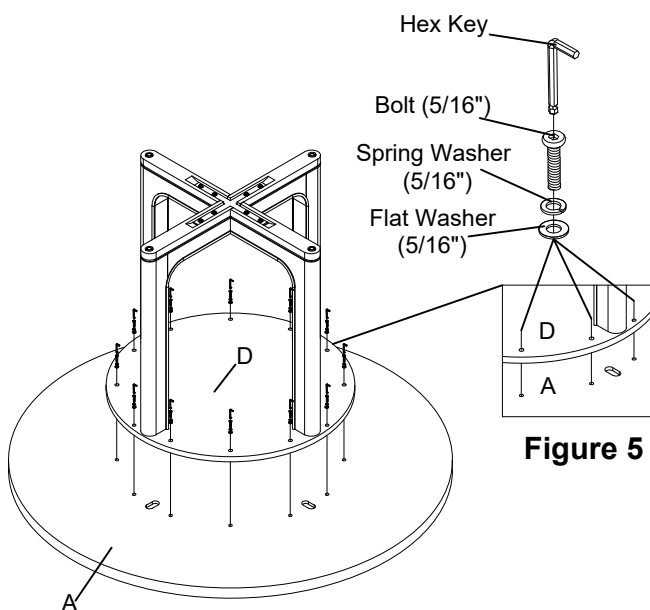

Figure 5
Connect the Connecting Panels (D) and Table Top (A) by inserting Bolt, Spring Washer, Flat Washer and fully tighten with Hex Key. (See Figure 5)